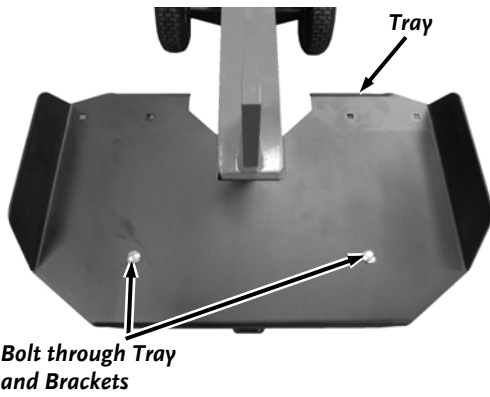

Figure 4
4. Position the Tray onto the Support Brackets and secure the front of the Tray to the Brackets with four 3/8-16 X 1.25" Flange Bolts and 3/8-16 Flanged Locknuts by hand but do not tighten (**Figure 4**).